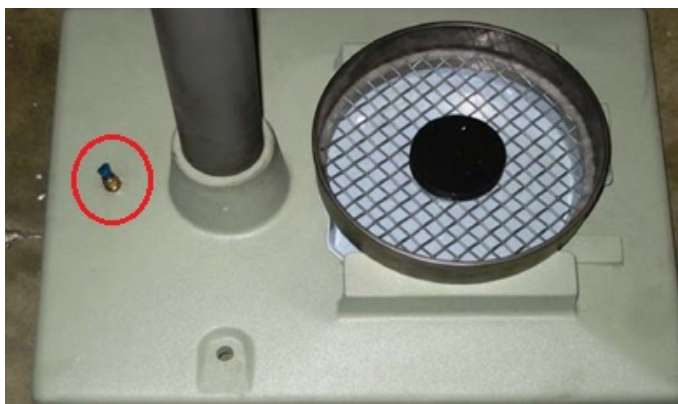

Figure 6: Air inlet of Shatter Index Tester with a factory shipped plug in place
2. Unscrew the compression air fitting from the shatter index base and, if supplied, remove the air plug as displayed in Figure 6.
4. Connect the Shatter Index Tester to the pneumatic regulator/filter using the pneumatic air tubing and fittings included with the unit. Connect the air tubing from the outlet of the regulator/filter to the air inlet (Figure 6) located on the base of the Shatter Index Tester. Secure the air tubing to the air inlet with the provided connector that is attached to the air inlet. Refer to the manufacturer's manual for detailed instructions.